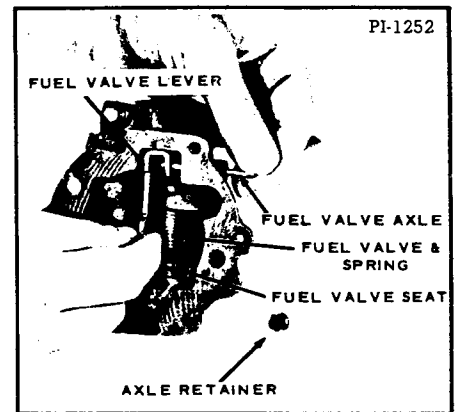

Fig. 241 Installing Fuel Valve Lever
7. Insert the tip of the fuel valve lever into the slot in the valve stem (Figure 241). Install the axle and axle retainer.